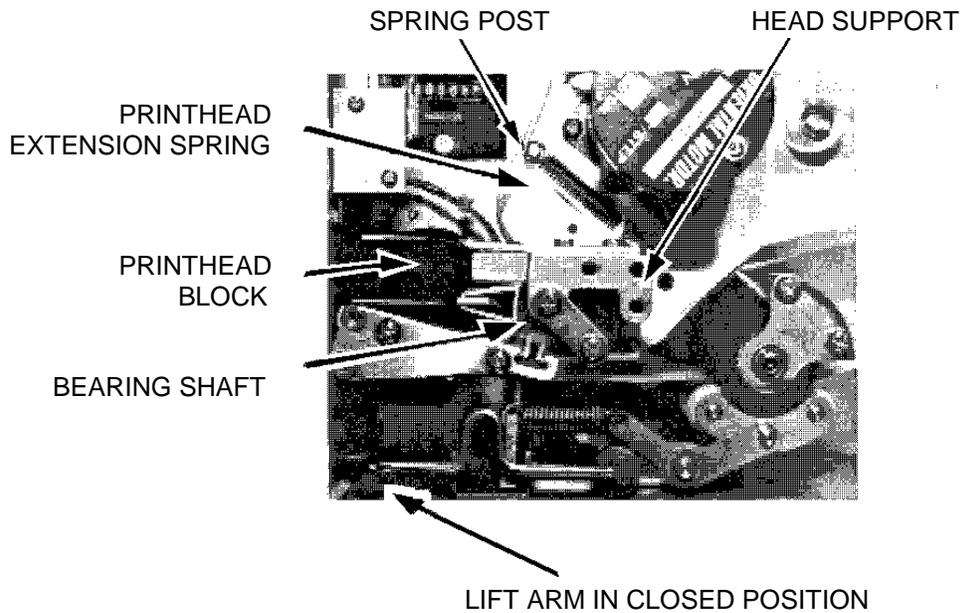

FIGURE 10
- ii. Check that printhead extension spring is not damaged. Replace if necessary. (see figure 10)